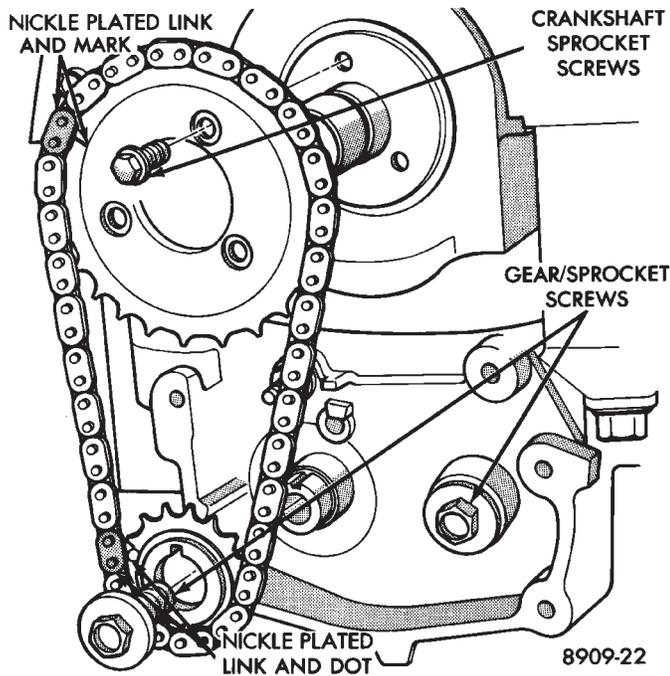

Fig. 17 Drive Chain and Sprockets
(2) Remove balance shaft gear and chain sprocket retaining screws and crankshaft chain sprocket torx screws. Remove chain and sprocket assembly. (Fig. 17)
(7) Place balance shaft sprocket into the timing chain (Fig. 17) so that the timing mark on the sprocket (yellow dot) mates with the (lower) nickel plated link on the chain.
(8) With balance shaft keyways pointing up (12 o'clock) slide the balance shaft sprocket onto the nose of the balance shaft. The balance shaft may have to be pushed in slightly to allow for clearance.